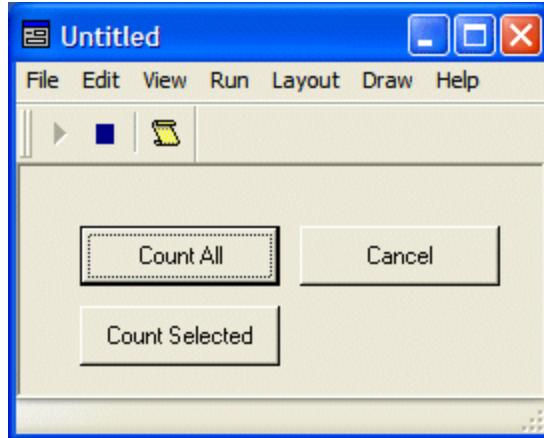

Figure 4-16. The form is running.
- 5) Click the **Run Form** icon to set the form running (the right-pointing arrow that looks like the "Play" button on a VCR or DVD player). The result will be as shown in Figure 4-16.